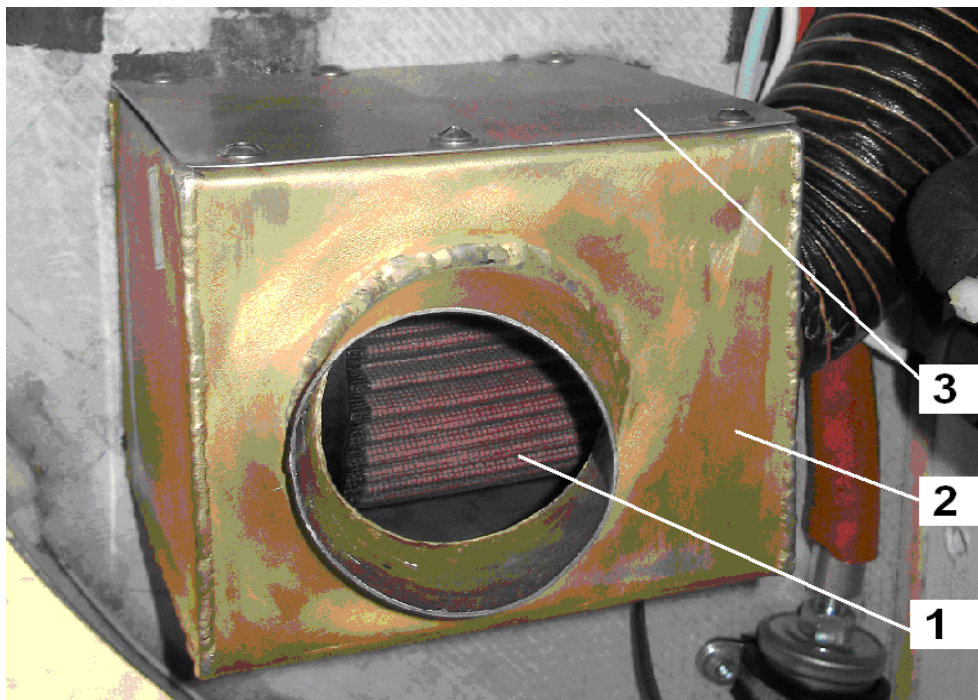

Fig. 1
- a. Inspect air filter (pos. 1, Fig.1) for conditions. Replace if necessary.
To replace the filter inside the air filter box (pos. 2, Fig.1) and the hose do the following:
1. Unscrew 6 bolts and remove the cover of the air filter box (pos. 3, Fig. 1).
5. Secure the cover (pos. 3, Fig. 1) by 6 bolts.
6. Release the clamps by a screwdriver and disconnect the hose from the air filter box (pos. 2, Fig. 1) and the airbox (pos. 1, Fig. 2).
8. Connect the hose to the air filter box (pos. 2, Fig. 1) and the airbox (pos. 1, Fig. 2). Tighten the clamps.